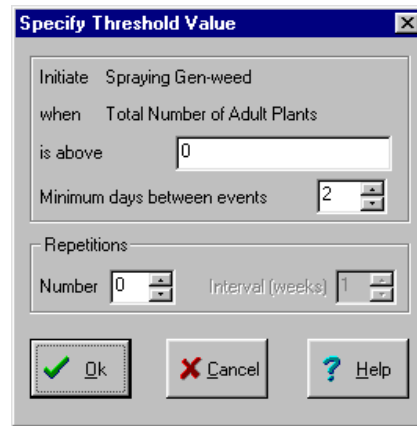

Figure 13.7 Specify Threshold Value Window
4. Select the '**Set Threshold**' button to open its window (figure 13.7) and set the threshold to 200;